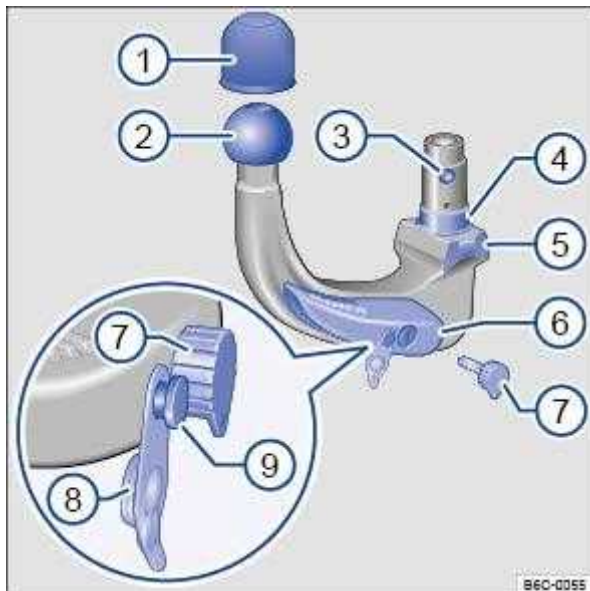

Fig. 155 Overview: removable ball head.
Key to ⇒ Fig. 155
Check to ensure that the mounting, locking lever ⇒ Fig. 155 ⑥, shank ④ and the retaining balls ③ of the ball head are all clean and not damaged ⇒ ①. Clean if necessary.
The lock cover ⇒ Fig. 155 ⑧ is open and the key ⑦ is inserted
Push the ball head firmly upwards until it engages. The centring devices ⇒ Fig. 155 ⑤ must engage in the mounting points on the vehicle.
The locking lever ⇒ Fig. 155 ⑥ is in the uppermost position.
☒ If the smallest diameter of the ball ⇒ Fig. 155 ③ is less than 49 mm, do not use the towing bracket.
- ☑ Remove the lock cover ⇒ Fig. 155 ⑧ from the lock in the locking lever and insert the key ⑦ into the lock.
- ☑ Turn the key ⑦ anti-clockwise until the part of the key with the hole is at the top.
- ☑ Hold the neck of the ball head under the ball head ② with your hand.
- ☑ Press the release pin ⑨ and at the same time press the locking lever ⑥ down as far as it will go ⇒ ⚠ . The ball head is pre-tensioned.
- ☑ Let go of the release lever ⑥ and stow the pre-tensioned ball head safely with the vehicle toolkit.